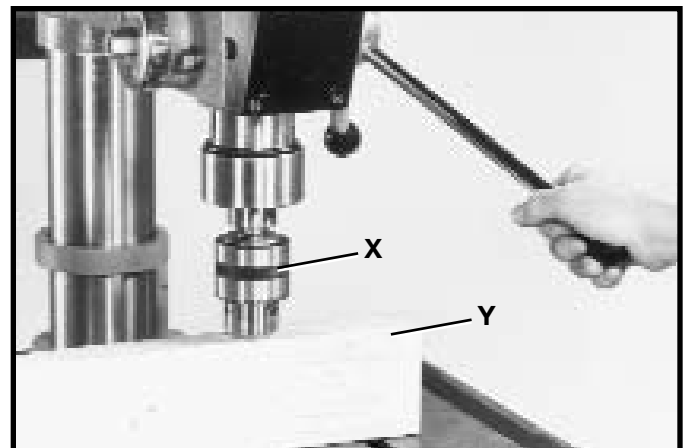

Fig. 15
15. Open the chuck jaws as wide as possible by turning the chuck sleeve (X) Fig. 15.
16. Place a block of wood (Y) Fig. 15, on the drill press table and lower the spindle until the chuck contacts the piece of wood. Exert pressure to properly seat the chuck.